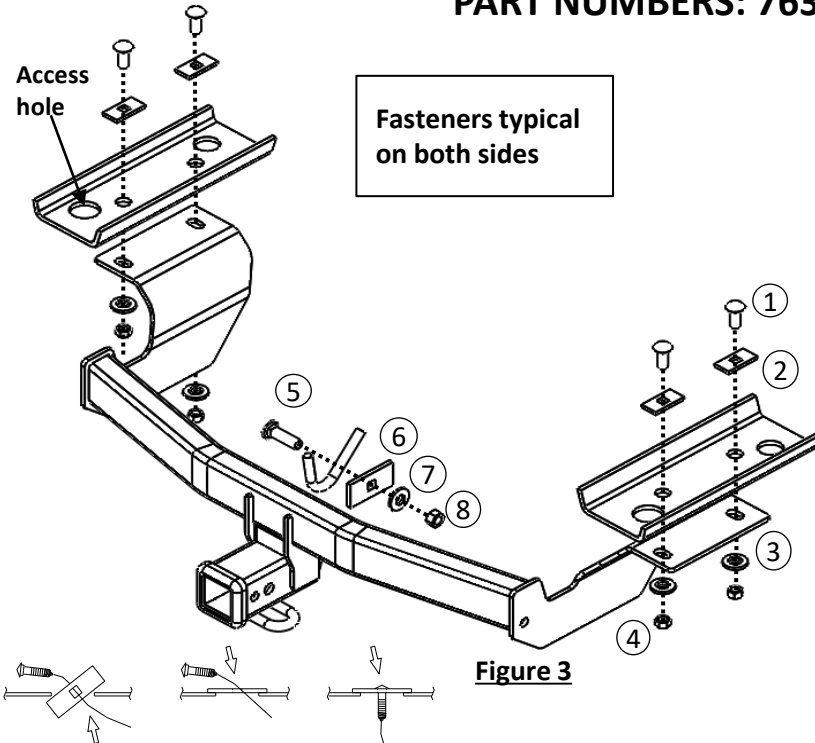

Figure 3
- Install Hitch** - Raise hitch into position, over the exhaust, and feed the pull wires through bracket slots. Remove pull wires and loosely install conical washers ③, hex nuts ④ to the hitch. Loosely install carriage bolt ⑤, spacer ⑥, conical washer ⑦, hex nut ⑧ through hook bracket of hitch and vehicle tow hook, **see Figure 3 & 4**.
- Reinstall (4) rivets on bottom of fascia and return (1) rivet to owner and reinstall the muffler hanger to move the muffler back into position.